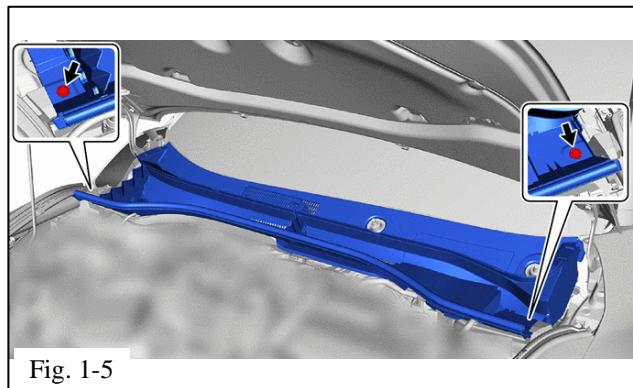

Fig. 1-5
(f) Remove the cowl top ventilator louver sub-assembly (Fig. 1-5).
(1) Remove the 2 clips (Fig. 1-5).